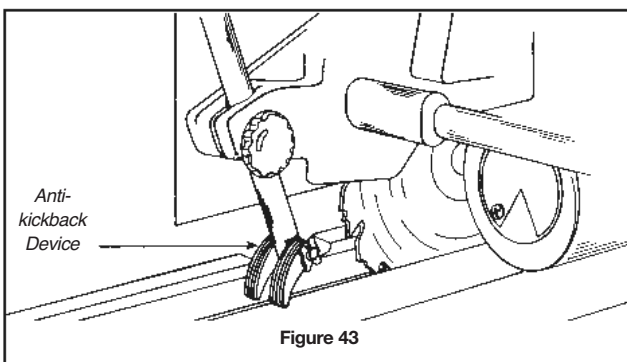

Figure 43
- Adjust anti-kickback device (Figure 43) to 1/8 inch below the surface of stock being fed.